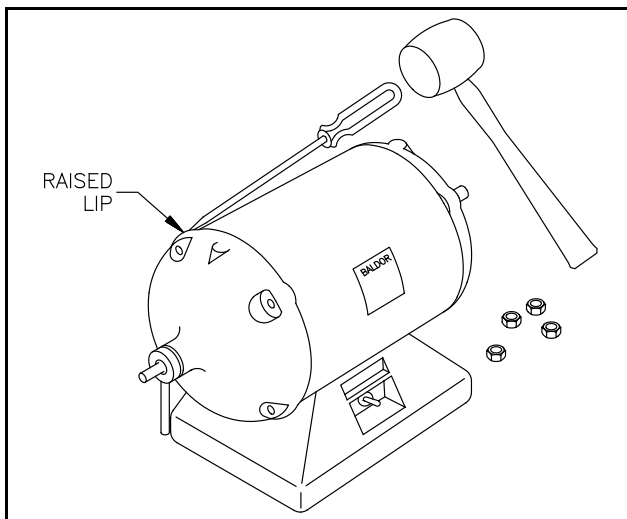

Figure 13. End plate removal
- 8.2.4 Remove the **right** side end plate first. Place the screw driver blade against the raised lip of the right end plate and tap gently with a mallet. Alternate tapping on all four raised lips. See Figure 13.
- 8.2.7 Remove the **left** side end plate. See Figure 13. Remove the hood switch from the left end plate.